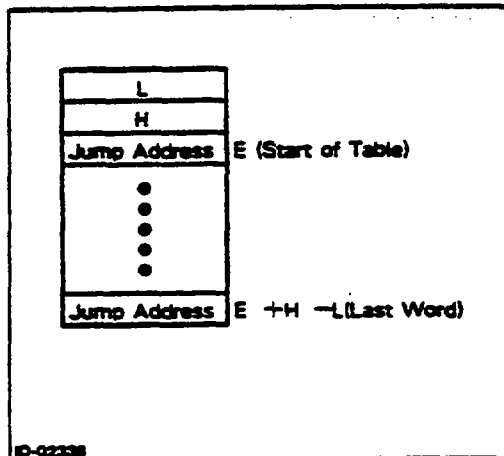

Figure A-1. DSPA Operation
**Use:** To conditionally transfer control to a location whose address is selected from a table in memory (see Figure A-1).